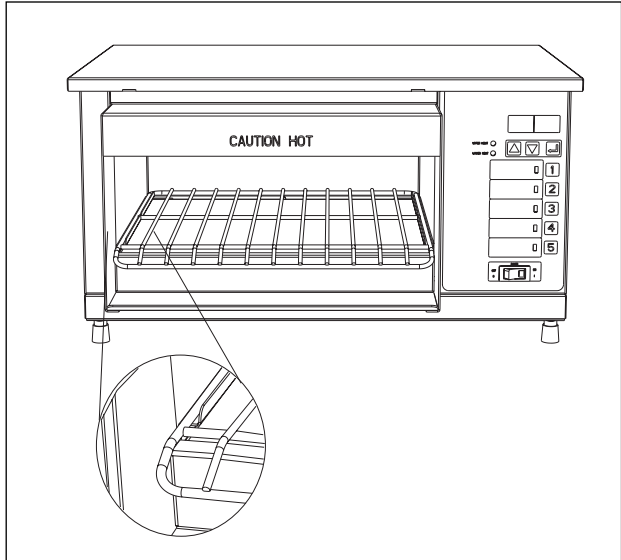

Figure 5. Rack Support Placement
4. Place wire plate rack on top of rack supports, making sure plate rack is not in direct contact with glass base. (See Figure 5.)